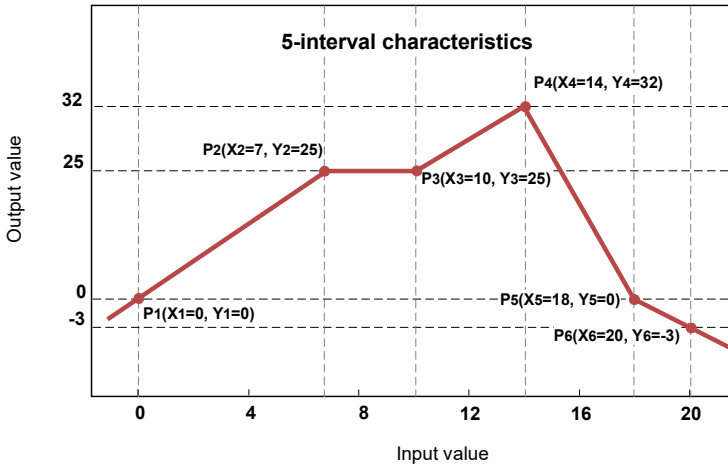

Fig. 7.40. Example of user characteristic
- d) **user char.** - is defined as a set of X-Y points. The number of the points is variable and may be set from 2 to 20 points which create linear segments (see **Fig. 7.40**). After choosing this option, the following parameter appears:
,where '**slope**' and '**offset**' are the coefficients of a segment contained between two points (see **Fig. 7.40**), and **n = 1, 2 ..** is the number of the segment.
The steps to create a user characteristic consisting of 6 points (like in Fig. 7.40):